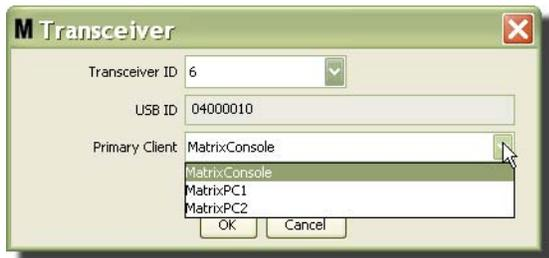

FIG. 107
- To modify the Primary Client assigned to a transceiver, click the arrow next to the Primary Client field to display the drop-down menu (FIG. 107). The purpose of assigning a Primary Client to a transceiver is to properly route Parts Room Authorization (PRA) requests from meters to proper PC client. If PRA mode is not being used, simply assign all transceivers to the default Matrix Console client.